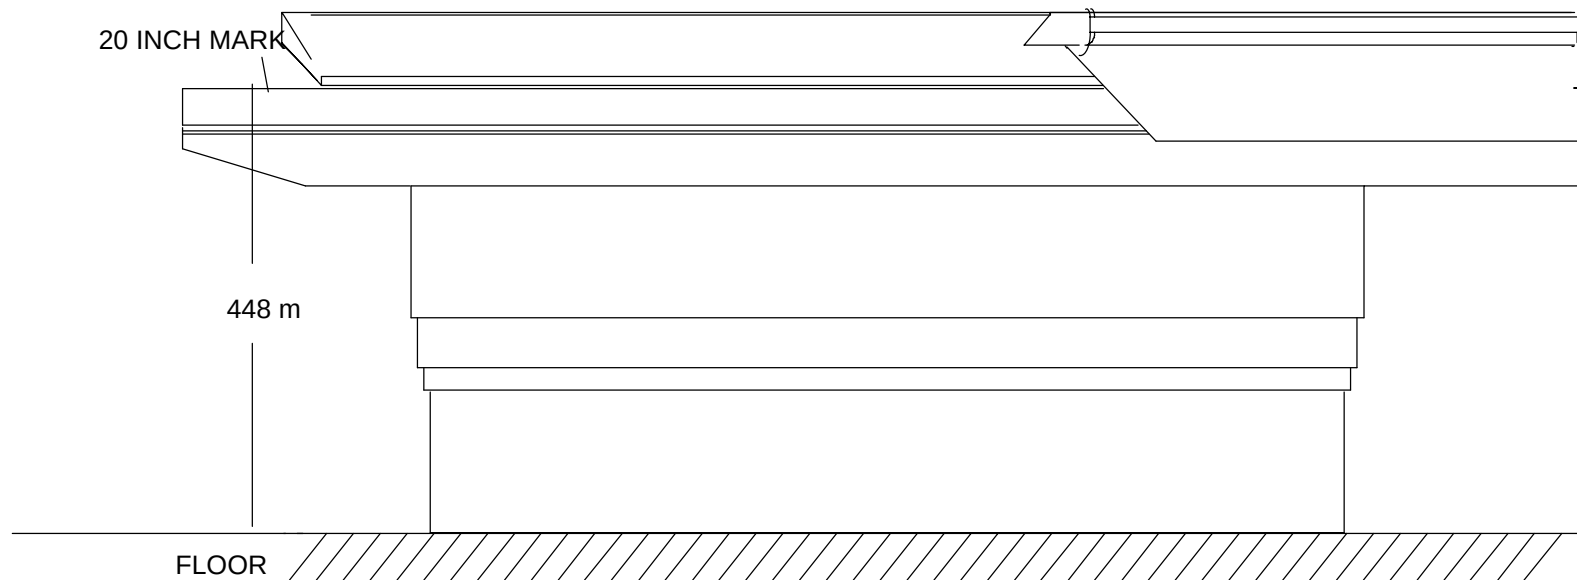

FIGURE 85 PATIENT SUPPORT AT 448 mm
7. Position the Patient Support 448 mm above the floor. Measure this distance with a tape measure. See Figure 85.